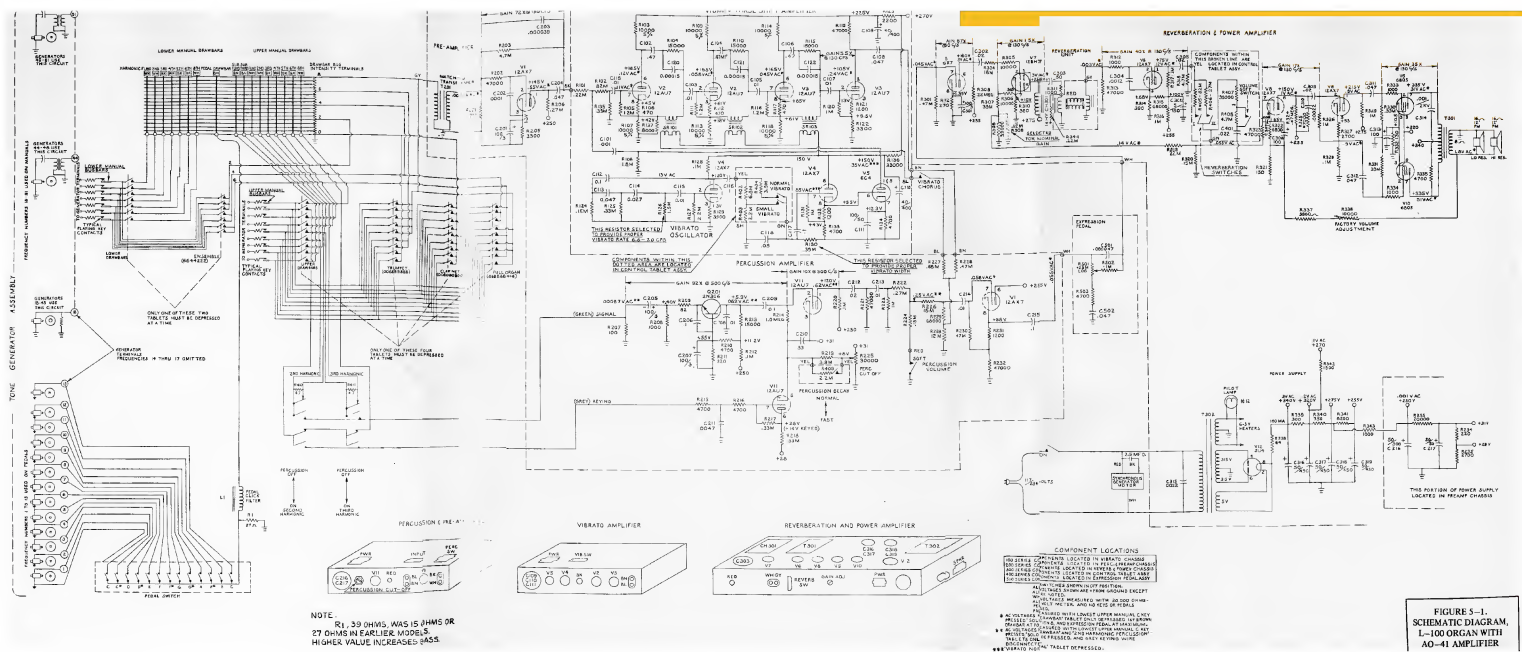

FIGURE 5-1. SCHEMATIC DIAGRAM, L-100 ORGAN WITH AO-41 AMPLIFIER
- b. If the generator turns and the tubes light, but no sound can be obtained with all controls in playing position, the most likely source of trouble is the amplifier. In most respects this is a conventional amplifier circuit, and the schematic diagrams, Figures 5-1 through 5-4, will enable the service man to locate the trouble.